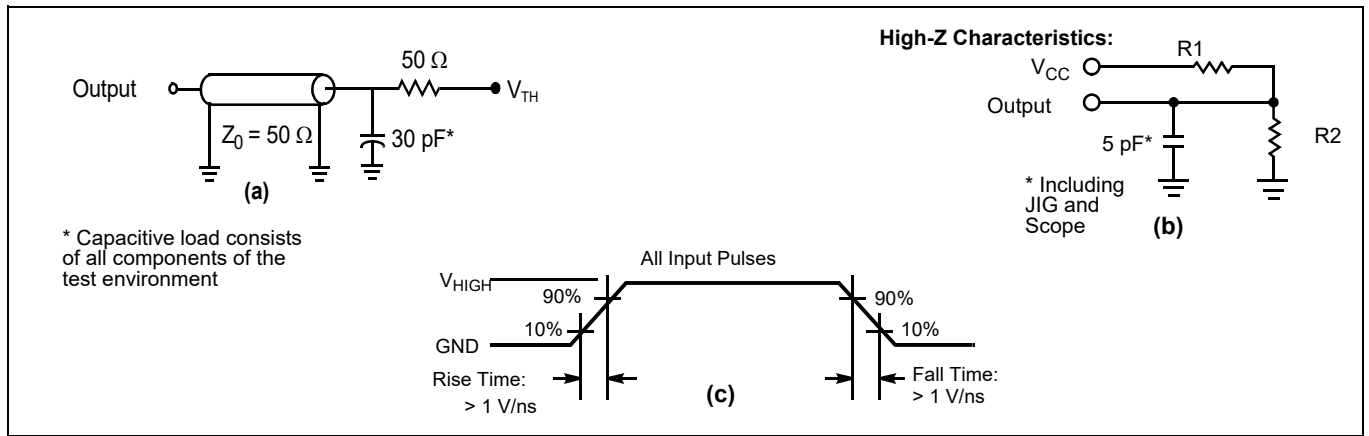

Figure 2 AC test loads and waveforms^[10]
14. Test conditions assume signal transition time (rise/fall) of 3 ns or less, timing reference levels of 1.5 V (for $V_{\text{CC}} \geq 3\text{ V}$) and $V_{\text{CC}}/2$ (for $V_{\text{CC}} < 3\text{ V}$), and input pulse levels of 0 to 3 V (for $V_{\text{CC}} \geq 3\text{ V}$) and 0 to V_{CC} (for $V_{\text{CC}} < 3\text{ V}$). Test conditions for the read cycle use output loading shown in part (a) of Figure 2 on page 11, unless specified otherwise.
18. t_{HZOE} , t_{HZCE} , t_{HZWE} , t_{LZOE} , t_{LZCE} , and t_{LZWE} are specified with a load capacitance of 5 pF as in (b) of Figure 2 on page 11. Transition is measured $\pm 200\text{ mV}$ from steady state voltage.
14. Test conditions assume signal transition time (rise/fall) of 3 ns or less, timing reference levels of 1.5 V (for $V_{\text{CC}} \geq 3 \text{ V}$) and $V_{\text{CC}}/2$ (for $V_{\text{CC}} < 3 \text{ V}$), and input pulse levels of 0 to 3 V (for $V_{\text{CC}} \geq 3 \text{ V}$) and 0 to V_{CC} (for $V_{\text{CC}} < 3 \text{ V}$). Test conditions for the read cycle use output loading shown in part (a) of Figure 2 on page 11, unless specified otherwise.
18. t_{HZOE} , t_{HZCE} , t_{HZWE} , t_{LZOE} , t_{LZCE} , and t_{LZWE} are specified with a load capacitance of 5 pF as in (b) of Figure 2 on page 11. Transition is measured $\pm 200 \text{ mV}$ from steady state voltage.